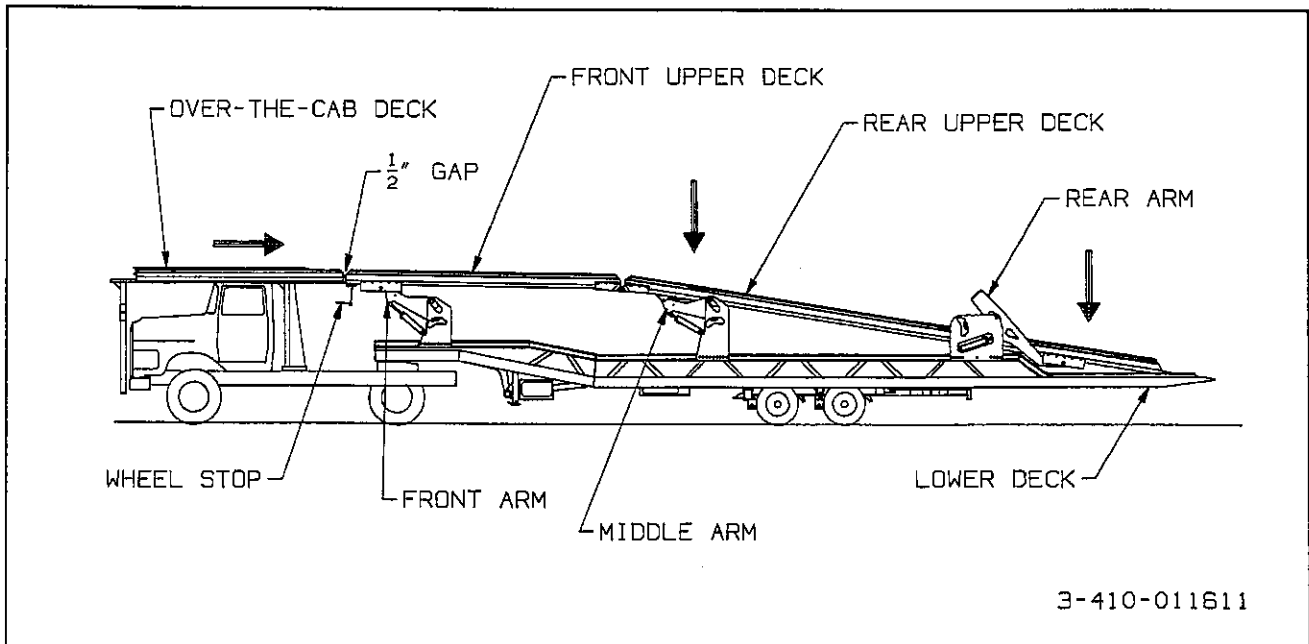

Figure 3-7 Lining Up the Over-the-Cab Deck
- a. Unlock and lower the middle arm as far down as it will go. (See Figure 3-7.)